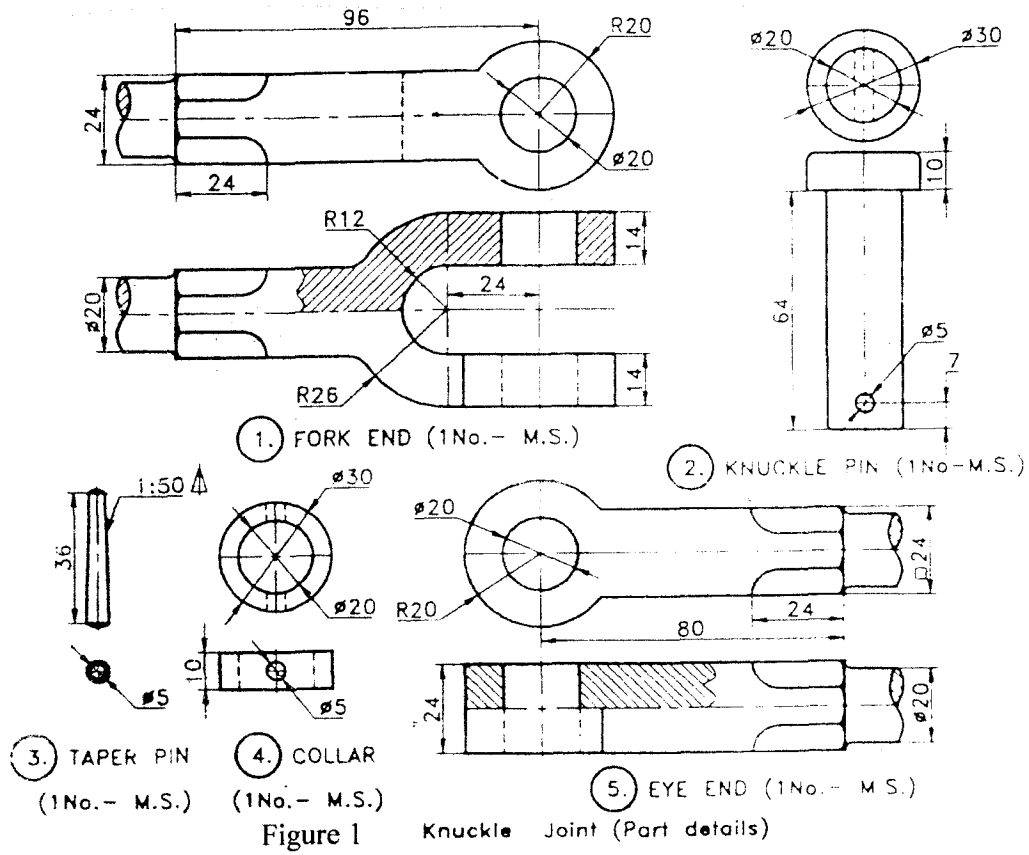
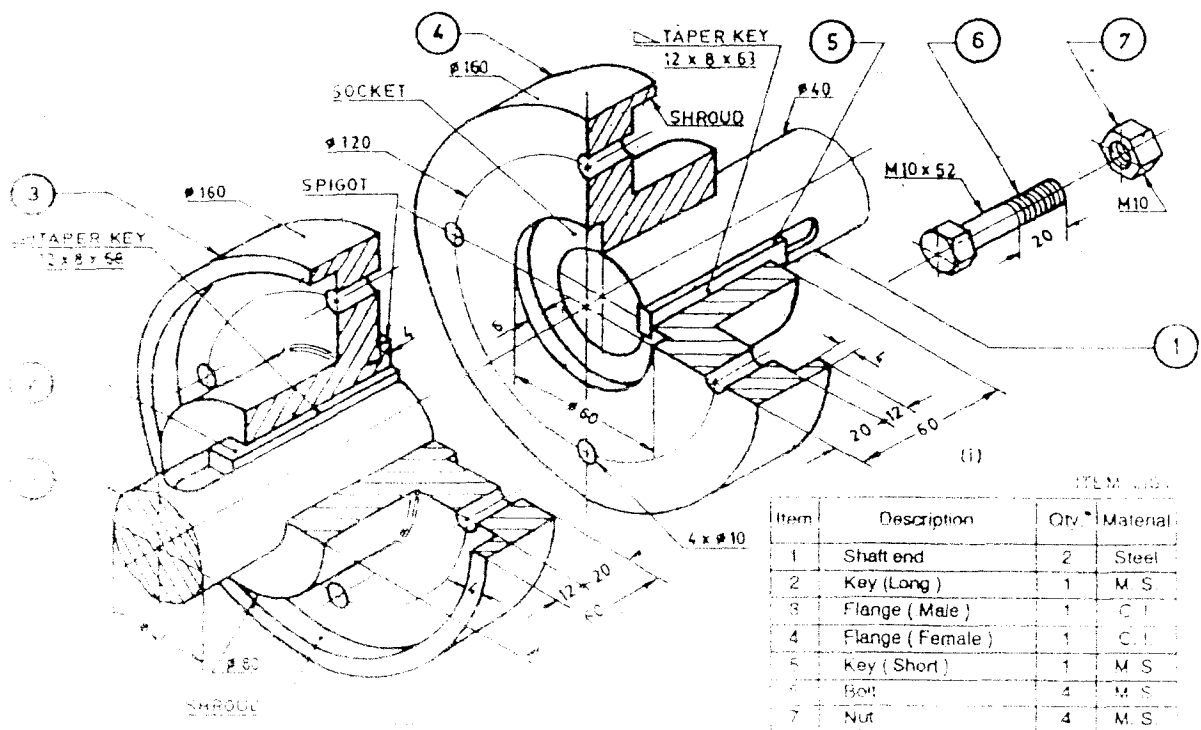

Figure 1
Figure 2
- I. (a) Draw profile of BSW thread showing at least three threads. $P=36\text{mm}$ and indicate all the standard proportions in terms of P . (10)
- (b) Make a neat sketch of both the external and internal square thread taking $P=24\text{mm}$. Show at least three threads. Indicate all the proportions in the drawing. (10)
- (c) Draw neat dimensional sketch of Lewis foundation bolt having a diameter of 20mm at the threaded end. Indicate all the proportions in the drawing. (10)
- II. Details of a knuckle joint is shown in Fig.1. Assemble them and draw: (30)
- III. Draw top half sectional elevation of an integral flanged joint for the following specifications: size of the pipe to be joined = $\phi 80$, Outside diameter of the pipe = 100, outside diameter of the flange = 176. Pitch circle diameter of bolts = 140. Size of the bolt = M12. Number of bolts = 6. Thickness of the flange = 20. Thickness of the gasket = 3. All dimensions are in millimeter. Also draw an end view. (30)
- IV. Isometric view of a flanged coupling (protected type) is shown in fig.2. Draw the top half sectional elevation and an end view. (30)